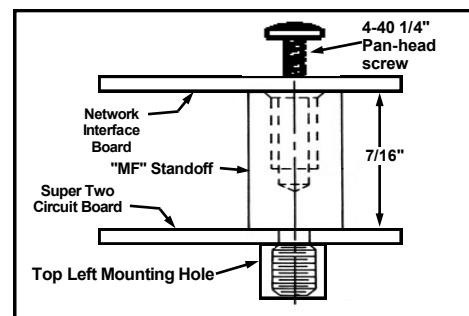
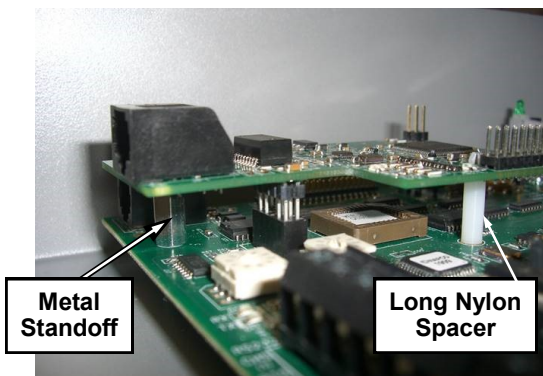
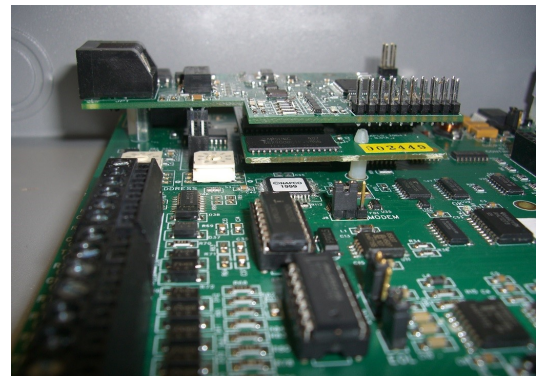

Fig. 2: 7/16" "Screw-on" type standoff.
Fig. 3: CICP1300NETBD2 without Memory Expansion Board.
Fig. 4: CICP2100NETBD2 with memory Expansion Board.
2. **On the Super Two main board, remove the 4-40 1/4" Phillips pan-head screw from the top left mounting hole.** Into this mounting hole screw in the 7/16" round MF-type standoff hand tight (see Figure 2). **HINT:** Before installing the Network Interface Board, make a note of its MAC Address (see Figure 3).
3. **Place the Network Interface Board on to the main board,** at the upper left corner (parallel to the top), as shown in Figure 3. Align the standoff hole in the network interface board with the standoff installed in step 2. If the Memory Expansion board is not installed, place the long nylon spacer (SO247LF3) between the Super Two Main board and the Network Interface board (see Figure 3). If the Memory expansion board is installed, place the short nylon spacer (SO249LF3) into the hole on the top of the Memory Board. The short nylon spacer goes between the Memory board and the Ethernet Board. (The short nylon spacer cannot be seen in Figure 4). Align all pins of the board with the J3 socket and press to insert the pins.